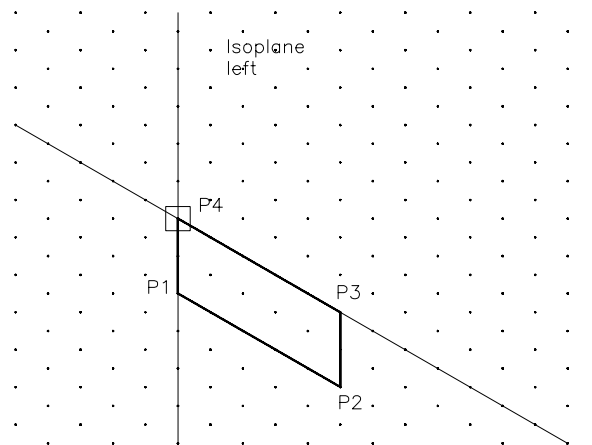

Figure 23-9 Drawing the bottom left face
2. Change the isoplane to isoplane left by pressing the F5 key. Enter the **LINE** command and draw lines between points P1, P2, P3, P4, and P1, as shown in Figure 23-9.